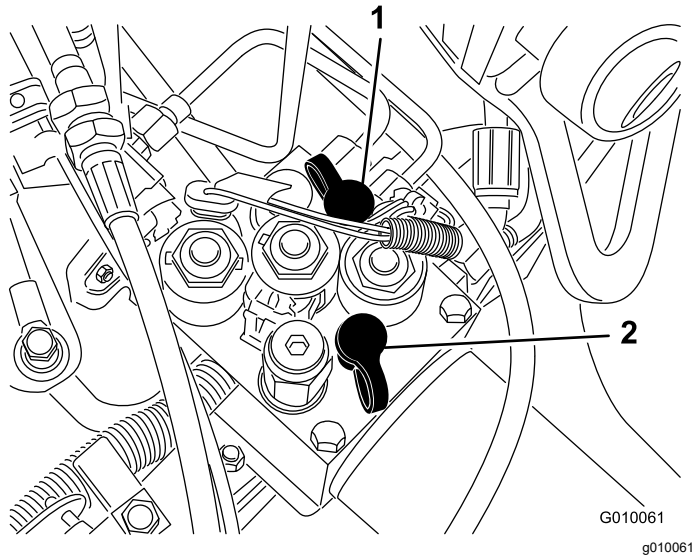

Figure 65
- Test Port G 2 (Figure 65) is used to assist in trouble shooting the traction charge circuit.
- Test Port G 1 (Figure 65) is used to assist in trouble shooting the lift circuit pressure.